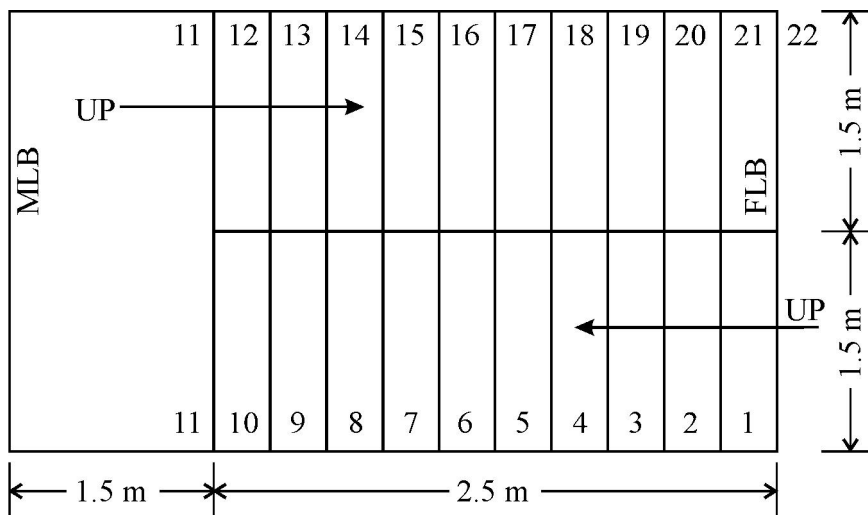

Fig. No. 1
- (b) Design an RC stair shown in Fig. No. 1 with the following data :